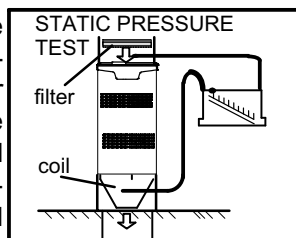

FIGURE 19
- 1 - Tap locations shown in figure 19.